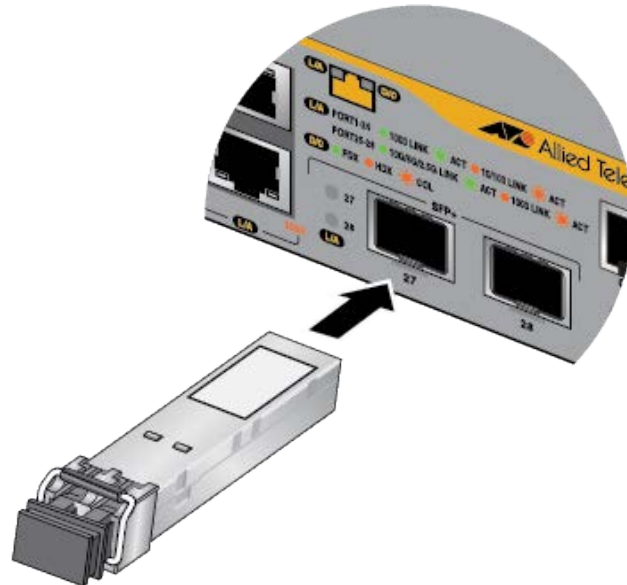

Figure 75. Installing an SFP+ Transceiver
3. Position the transceiver with the Allied Telesis label facing up. Refer to Figure 75.